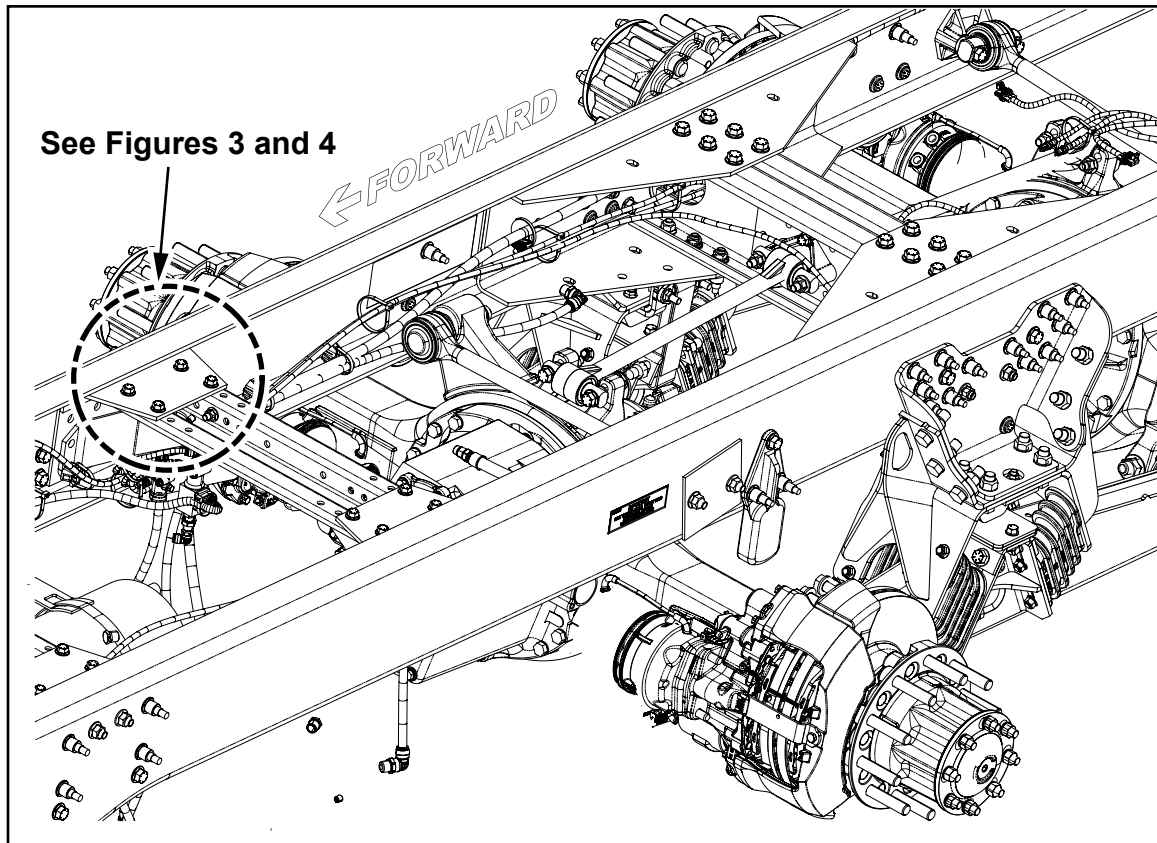

Figure 2
3. Install the S7440003-001 bracket to the right side of the cross member using (2) FE286250BW01 1/2" locknut's and (2) FE410150AW14 1/2" bolts and tighten to 90 lbs. ft. of torque (see Figures 2, 3 and 4).